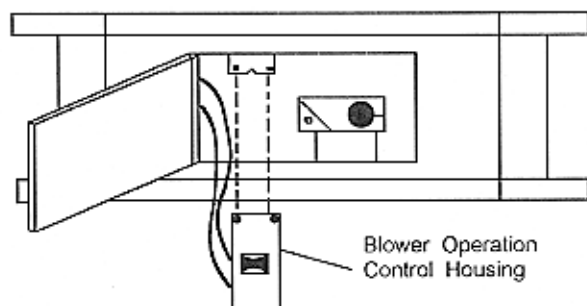

Figure 17-F-Installing Blower Control Housing
12. Install control knob onto output shaft of speed control housing (see Figure 16-F). Place operation control housing just inside control compartment door in front of stove (see Figure 17-F).
13. Using two black screws provided in blower kit, mount blower speed control housing to mounting tab in left side of lower control compartment (see Figure 17-F).